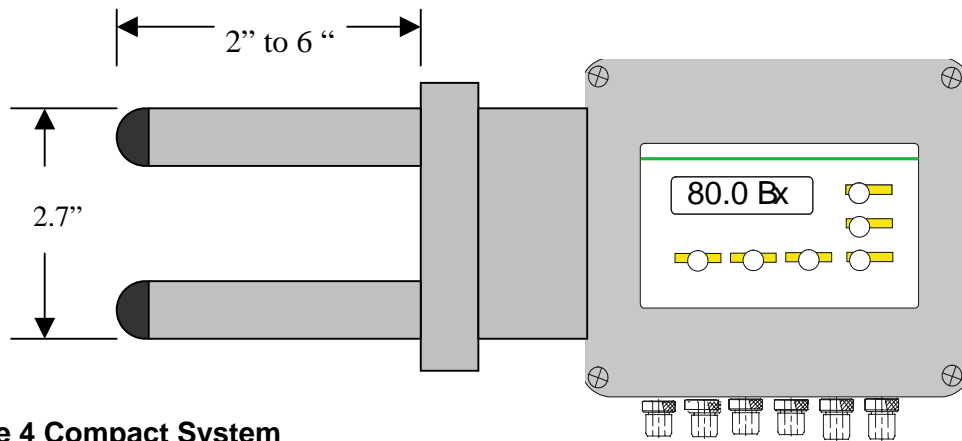

Figure 4 Compact System
- The **HK-2 Compact System** is a one-piece unit mounted on a 2-1/2" ANSI flange (Figure 4).